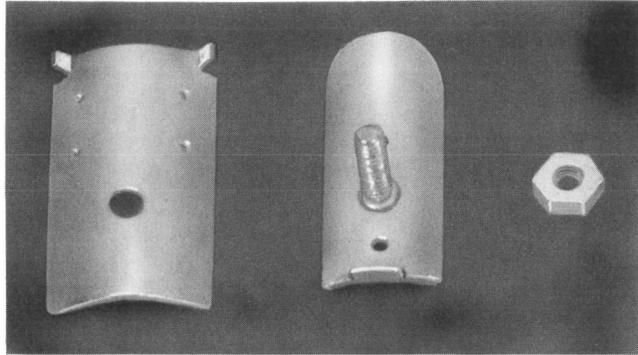
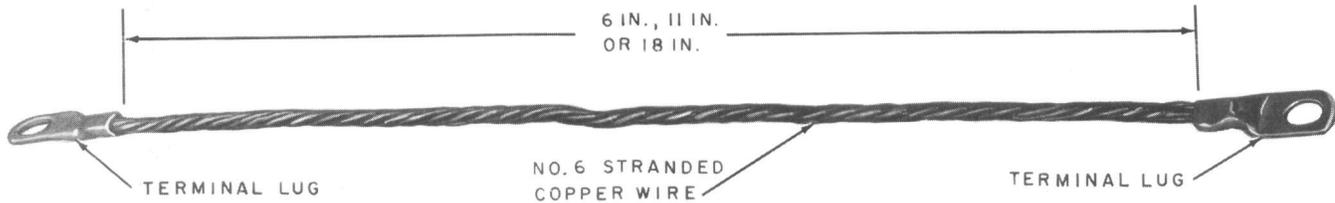

Fig. 4—D Bond Clamp
Fig. 5—Bond Strap
- (a) **D Bond Clamp (Fig. 4) and Bond Strap (Fig. 5):** Used to bond the metallic shield of PIC cables to the ground bracket of the closure.